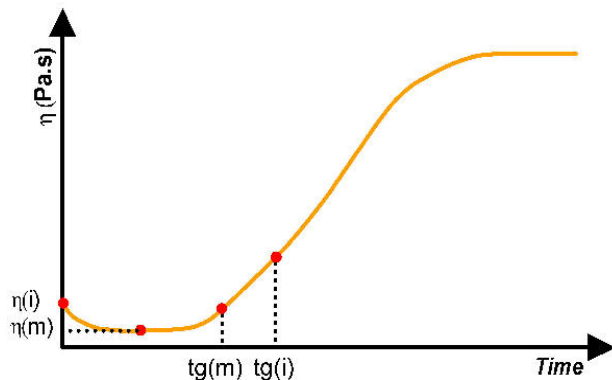

Figure 9 : Viscosity x2 or x3 (or x n)
- time of doubling or tripling of the initial or minimum viscosity (mastics, loaded resins-.) See figure 9